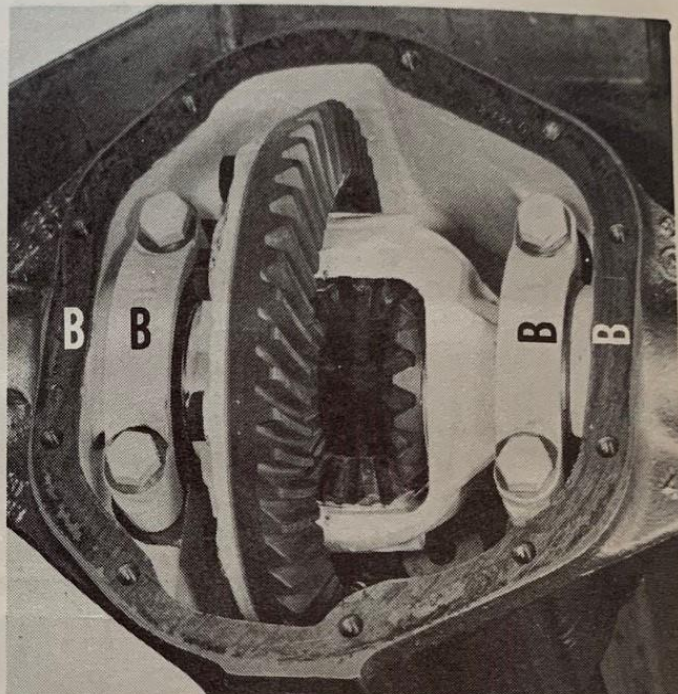

Fig. 2
5. Remove the Differential Bearing Caps. Note the machined marks on the rear axle housing and the Bearing Caps. These must be reassembled later in the same position they were in prior to disassembly. (See Fig. 2.)